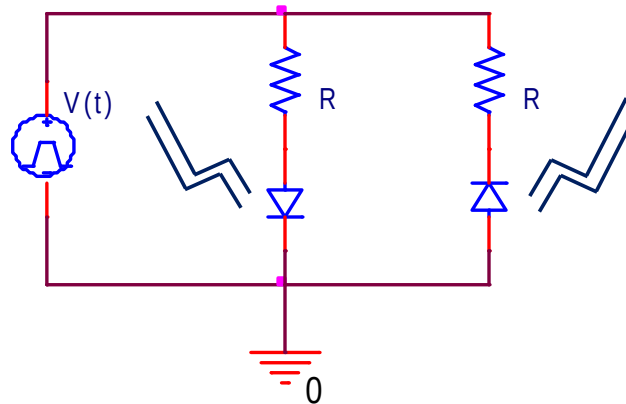

Figure 9. Blinking LED circuit for Part 3.
3.2 Build the circuit shown in Figure 9 on your protoboard (use the protoboard worksheet if you find it helpful). **You will be using the function generator signal as the voltage source ($V(t)$).** Assuming that the diode voltage is 2V when the diode is on, calculate the resistance you need to limit the diode current to 20mA (to prevent overheating and damage). Both LEDs should blink. If not check the orientation (and review Lab1)